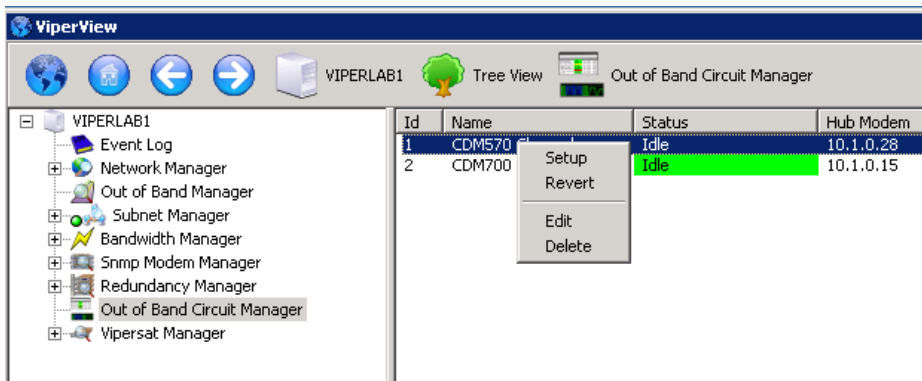

Figure 6-15 Setting up an OBVM Circuit
4. Once the channel is configured it will be possible to manually switch it. Right click on the channel and select “Setup” from the drop down menu. This menu also allows the operator to revert an active channel, to edit the channel parameters and to delete the channel. figure 6-15 illustrates this.